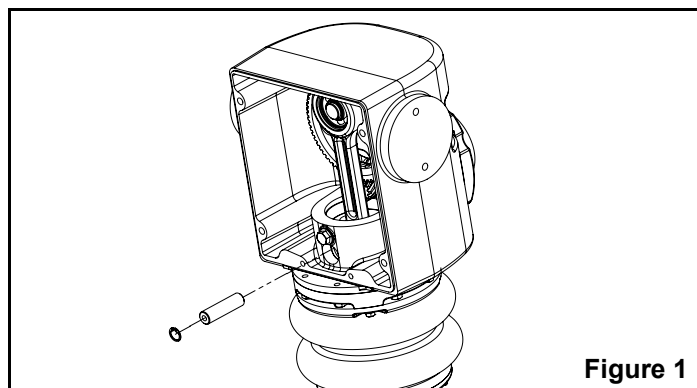

Figure 1
6. Remove retaining ring (#7) from piston. Thread a 5/16-18 screw into the piston connecting pin (#6) and remove the pin. See Figure 1.